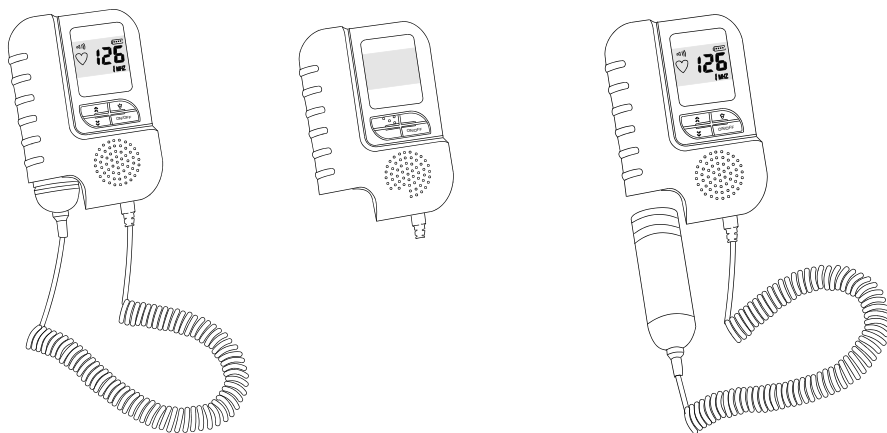

Fig 4.2
2. To replace the probe, hold the main unit with one hand, and holding the probe with other hand, place the probe into the probe holder and push it home. Do not force the probe. It should slip in and out of the holder easily. (See Figure 4-2)